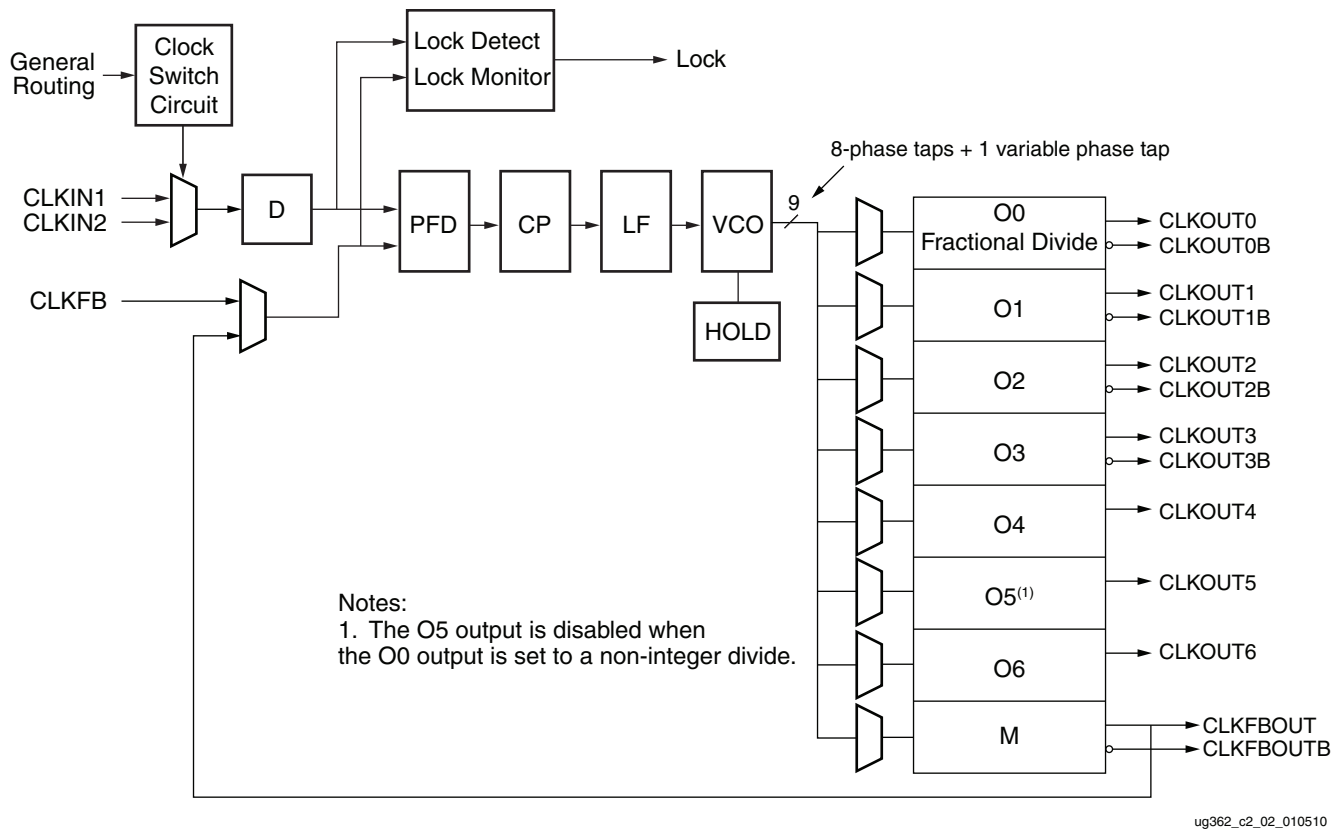

Figure 2-2: Detailed MMCM Block Diagram
Input MUXes select the reference and feedback clocks from either the IBUFG, BUFG, BUFG, GTs (CLKIN only), or interconnect (not recommended). Each clock input has a programmable counter divider (D). The Phase-Frequency Detector (PFD) compares both phase and frequency of the rising edges of both the input (reference) clock and the feedback clock. If a minimum High/Low pulse is maintained, the duty cycle is ancillary. The PFD is used to generate a signal proportional to the phase and frequency between the two clocks. This signal drives the Charge Pump (CP) and Loop Filter (LF) to generate a reference voltage to the VCO. The PFD produces an up or down signal to the charge pump and loop filter to determine whether the VCO should operate at a higher or lower frequency. When VCO operates at too high of a frequency, the PFD activates a down signal, causing the control voltage to be reduced decreasing the VCO operating frequency. When the VCO operates at too low of a frequency, an up signal will increase voltage. The VCO produces eight output phases and one variable phase for fine-phase shifting. Each output phase can be selected as the reference clock to the output counters (Figure 2-2). Each counter can be independently programmed for a given customer design. A special counter, M, is also provided. This counter controls the feedback clock of the MMCM allowing a wide range of frequency synthesis.
where the M, D, and O counters are shown in Figure 2-2. The value of M corresponds to the CLKFBOUT_MULT_F setting, the value of D to the DIVCLK_DIVIDE, and O to the CLKOUT_DIVIDE.